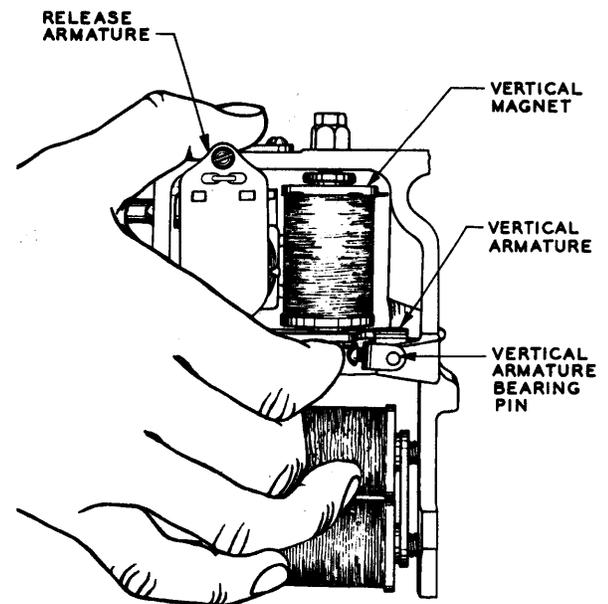

Fig. 3 – Method of Supporting the Vertical Armature While Removing or Remounting the Bearing Pin
- (1) Lift the release armature from the lugs on the release magnet bracket and rotate the armature so that it is approximately at right angles to its normal position. If the release contact spring assembly obstructs removal of the armature, loosen the spring assembly mounting screw, using the 563A and 564A offset screwdrivers, and suspend the spring assembly by its leads, taking care not to damage the leads.
- (2) Loosen the screw in the vertical armature bearing pin clamp, using the 4-inch E screwdriver or the 556A wrench. Press the vertical armature spring downward and swing it to the right as far as possible.
- (3) Tap lightly on the left end of the armature bearing pin, using the pin punch and if necessary the 4-ounce riveting hammer until the right side of the bearing pin can be grasped with the fingers or 485A pliers. Remove the pin and pin clamp. See Fig. 3.
- (4) Working from the right side of the switch, lower the armature end of the assembly and rotate the assembly to disengage the armature lug from the release link. Remove the armature assembly from the switch.